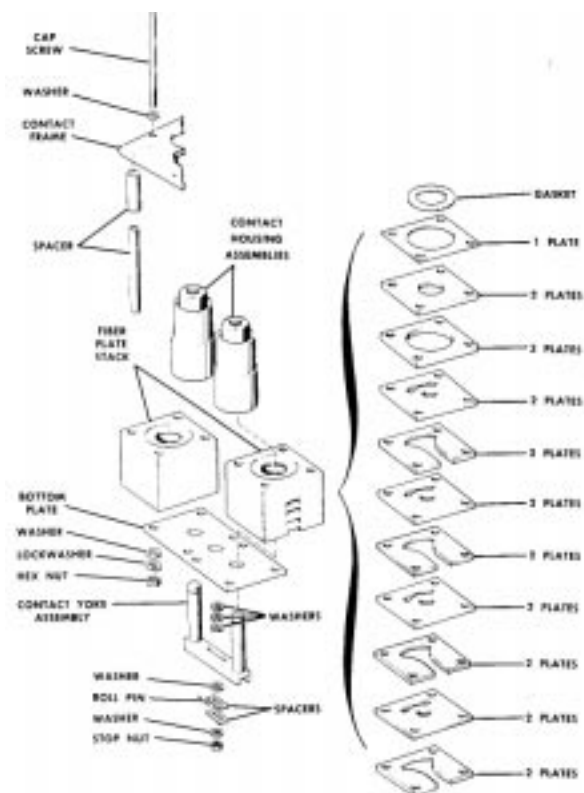

Figure 7
6. Slide the arc interrupter assembly downward. Figure 7 shows the individual parts in the order of removal.